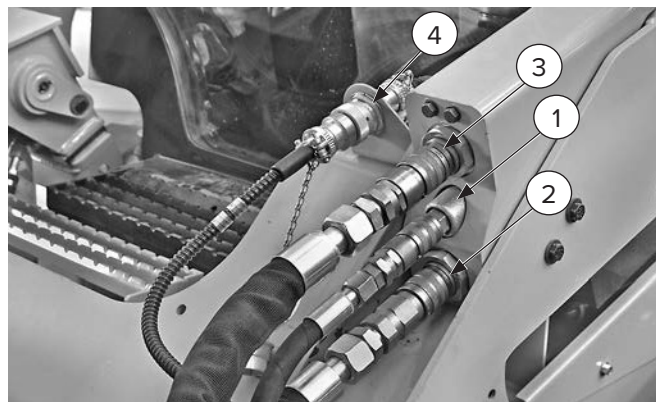

Figure 4
3. Connect the hoses using the quick couplers (see "4.5 Connecting Quick Couplers" on page 17). It is essential to connect the case drain hose first (see Figure 4 on page 16, Item 1) and then connect the supply [Item 2] and return [Item 3] hoses.